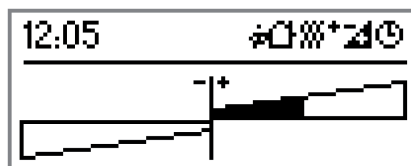

Figure 58: Example of a 2-area display with basic setpoint shifting as a bar graph
- i** In the display function "Setpoint shift as bar graph" (Figure 58) it is not possible to configure any supplementary texts.
With relative setpoint presetting, the push button sensor allows step-by-step shifting of the setpoint temperature within defined limits. This setpoint shift can be performed either using the display buttons (see page 18-19) or using controller extensions in the positive (+) or also in the negative (-) direction. Whether a basic setpoint shift has been performed (i.e. the shift is not equal to "0") in the 2-area display is indicated using the  icon. Optionally it is possible to display the setpoint shift in the form of a bar graph (Figure 58). In this case the bar graph accounts for the entire menu area, which means that other display functions can no longer be displayed in this display area.